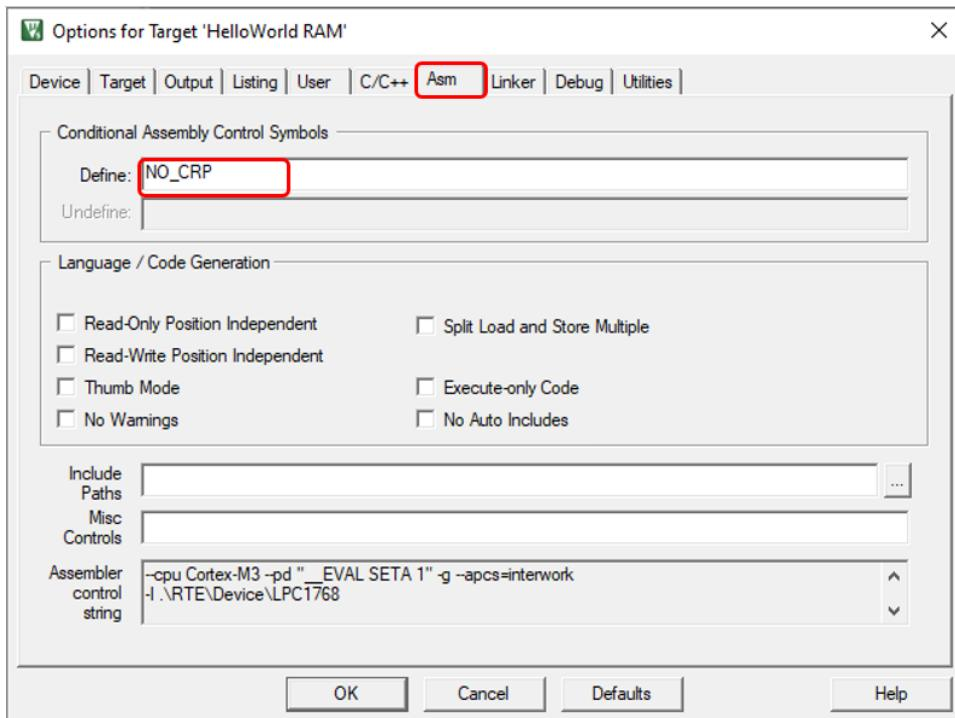

Figure 8.29: Keil IDE: RAM Target Asm Configuration.
4. Select the Asm tab and input NO\_CRP in the Conditional Assembly Control Symbols section as shown in Figure 8.29.